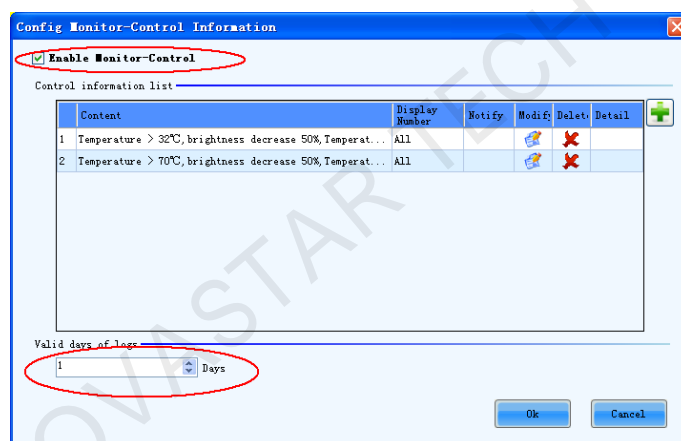

Fig. 7-42 Configuration Of Monitor-Control
One control information can be added by clicking the button  in Fig.7-42. As it show in Fig. 7-43 is to add one temperature control information, as it show in Fig. 7-44 is to add one smoke control information.
2) In Fig. 7-42 click on the cabinet in the sketch map to open the **Point Detect Result of Modules** page for details about LED status information. Shown in Fig. 7-50 is the **Point Detect Result of Modules** page showing the LED status of the red cabinet in Fig. 7-50: